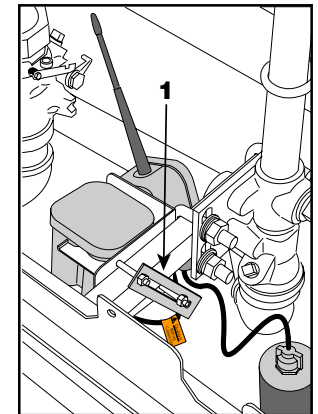

Fig. 11
2. Get 1x 6 inch (25 x 152mm) slotted flat bar and two 0.25 x 3 inch (13 x 76mm) bolts (Item 1 Fig. 11) from kit and clamp battery support bracket to square tubing support. (Go to iii).